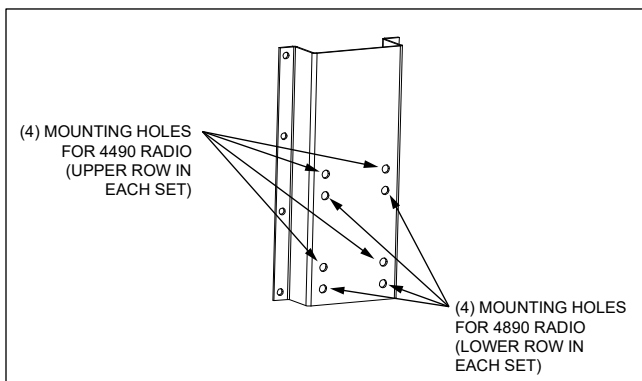
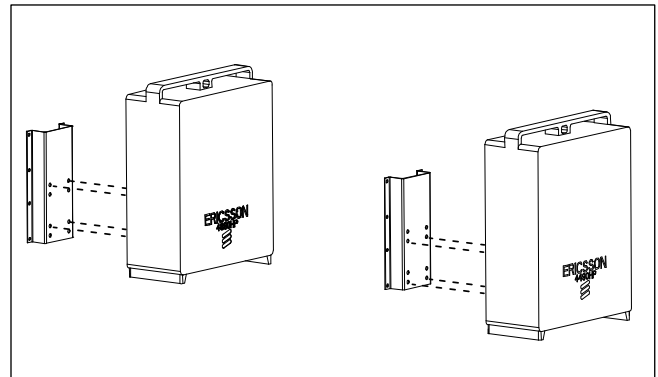

Figure 8 Radio Mounting Brackets
Figure 9 Attach Radios to Brackets
1. Locate the two radio brackets. Each bracket has two sets of mounting holes. The upper row in each set is used for the Ericsson 4490 radio. The lower row in each set is for the Ericsson 4890 (Figure 8). Attach the radios to the radio brackets using customer supplied hardware (Figure 9).